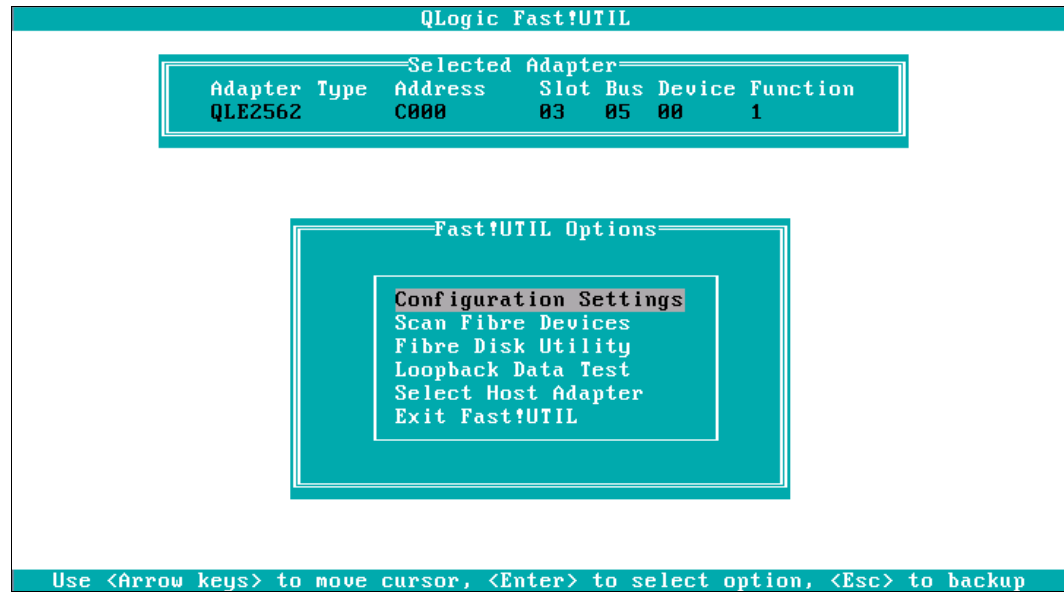

Figure 4-3 QLogic configuration panel: Fast!UTIL Options
2. You normally see one or more ports. Select a port and press Enter. It takes you to a panel as shown in Figure 4-3. If you will only be enabling the BIOS on one port, then make sure to select the correct port.
15. When all controllers have been configured, from the **Fast!UTIL Options** menu (Figure 4-3 on page 207), select **Exit Fast!UTIL**. The Exit Fast!UTIL menu is displayed as shown in Figure 4-11.